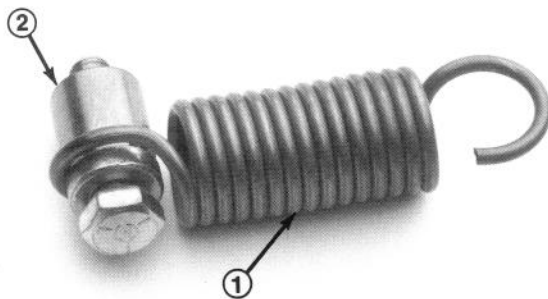

Figure 2
4. Hook spring onto spring retainer (Fig. 2). End of spring to be positioned in groove on spring retainer.